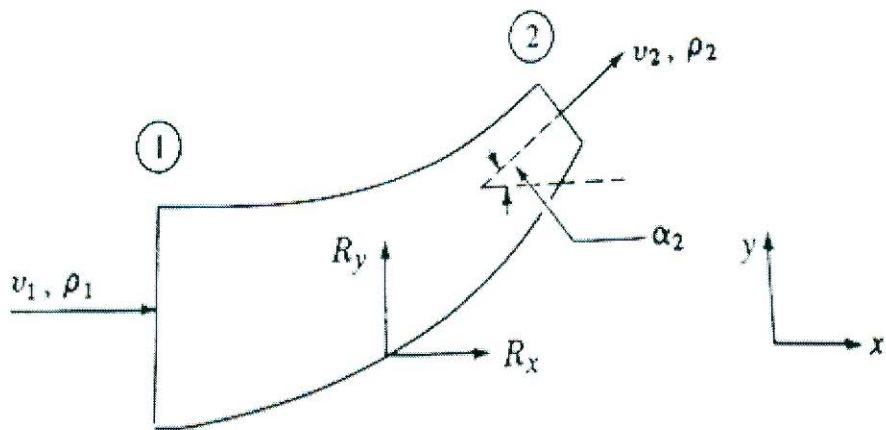

Figure 3 - Flow through a reducing bend
2. [a] Fluid is flowing at steady state through a reducing pipe bend as shown in Figure 3. Turbulent flow will be assumed with frictional forces are negligible. The volumetric flow rate of the liquid and the pressure,  $p_2$ , at point 2 are known as well as the pipe diameters at both ends. Derive the equations to calculate the forces on the bend, R. Assume the density,  $\rho$ , is constant.